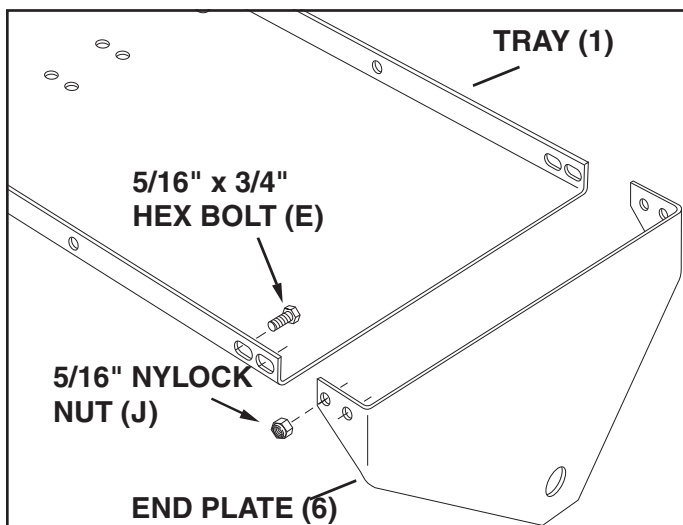

FIGURE 5
- Assemble the end plates (6) to the ends of the tray (1) using four 5/16" x 3/4" hex bolts (E) and four 5/16" nylock nuts (J) for each end plate. Do not tighten until step 8. See figure 5.